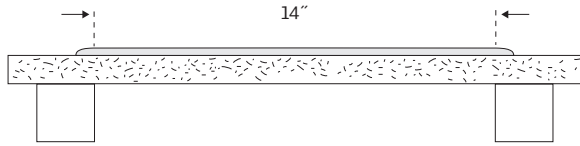

Figure 3
2. Reduce the size of the glass project relative to the size of the kiln shelf. For example, rather than covering the full 20" (508mm) width of a shelf with a piece, limit the dimensions of the piece to 14" (356mm). (Figure 3)